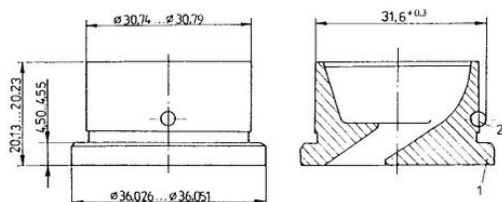

Fig. 30. Chamber insert with a ball
- Place a ball, diameter 3 mm, to the side hole of a chamber insert (Fig. 30) using a thick grease then put in a cylinder head a chamber insert together with a ball: the ball should be in position suiting the groove in a hole, then knock in a chamber insert using a mandrel, diameter 35 mm, made of a soft steel;